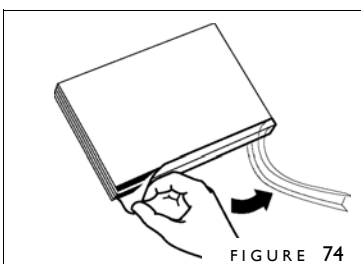
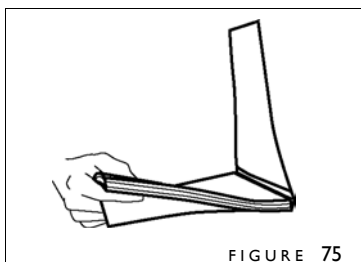

FIGURE 74
FIGURE 75
2. Peel off the release liner from the back of your cooled book block (figure 74). Then, insert the book block into your cover (figure 75). Make sure the front page is under the front of your cover.